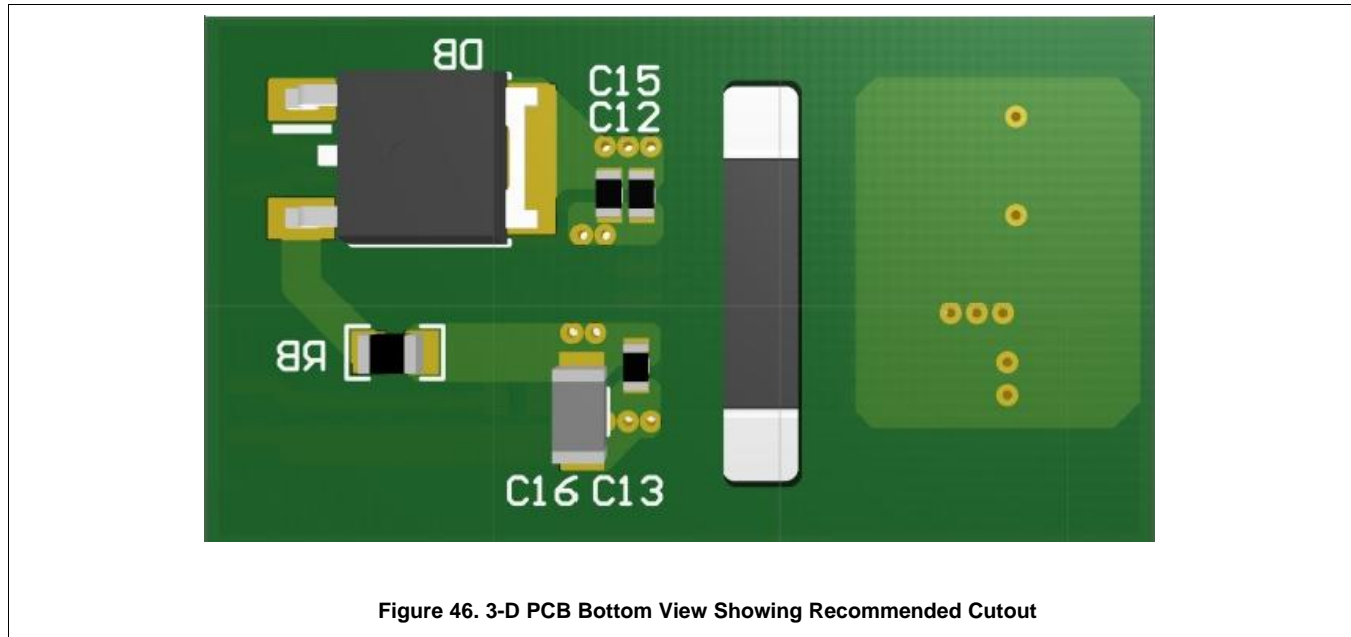

Figure 46. 3-D PCB Bottom View Showing Recommended Cutout
PCB traces between the high-side and low-side gate drivers in the output stage are increased to maximize the creepage distance for high-voltage operation, which will also minimize cross-talk between the switching node VSSA (SW), where high dv/dt may exist, and the low-side gate drive due to the parasitic capacitance coupling. Figure 46 shows a 3D view of the bottom side recommended layout, showing the board cutout.